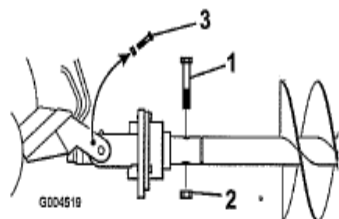

Figure 8
- Secure the auger to the drive head with a bolt (7/8 x 4-1/2 inch) and nut (7/8 inch) (Figure 8).
- Remove the bolts and nuts from the cradle arms that were installed in steps Figure 1 (if applicable) and Figure 8.